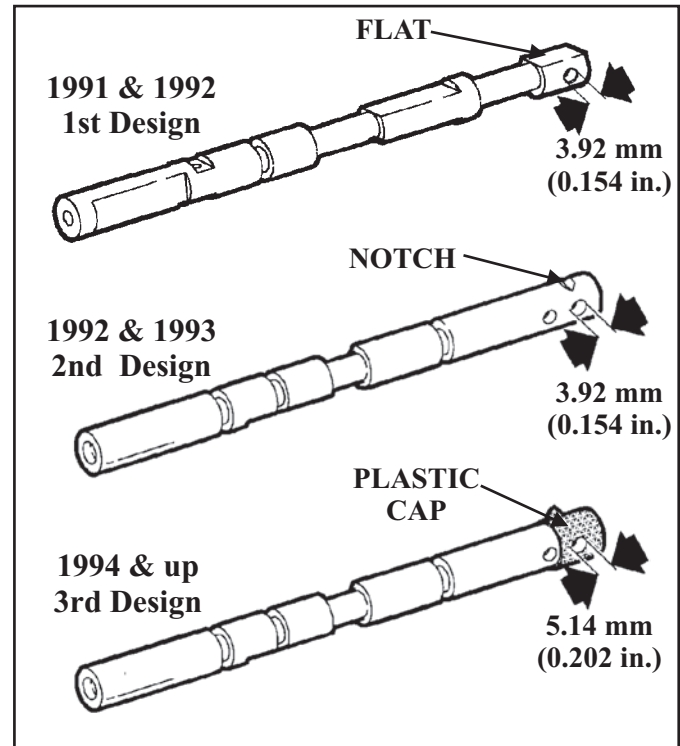
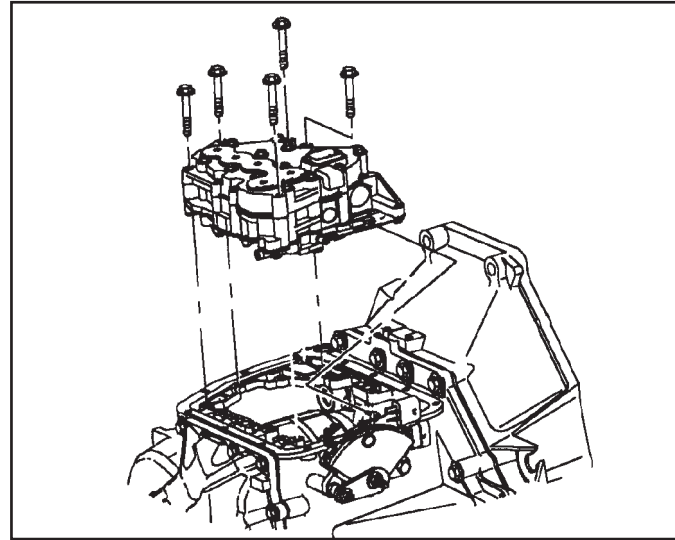

Figure 215
Figure 217
48. The change in the valve link necessitated a change to the manual valve as well (See Figure 215). The manual valve link hole that the link attaches to
51. Install the valve body to the case (See Figure 217). Make sure the manual valve is oriented with flat or notch facing up (See Figure 215).